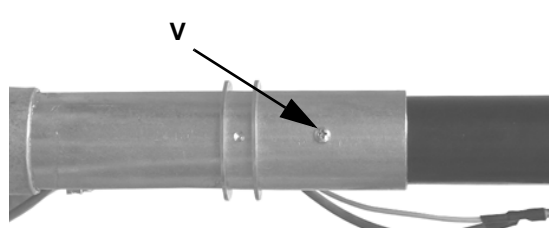

Fig. 17
- 7 Unscrew the **V**, rotate the head of 180 ° along its axis as shown in(Fig. 16), until the hole **F** is found. Fit the screw again(Fig. 16 - Fig. 17).